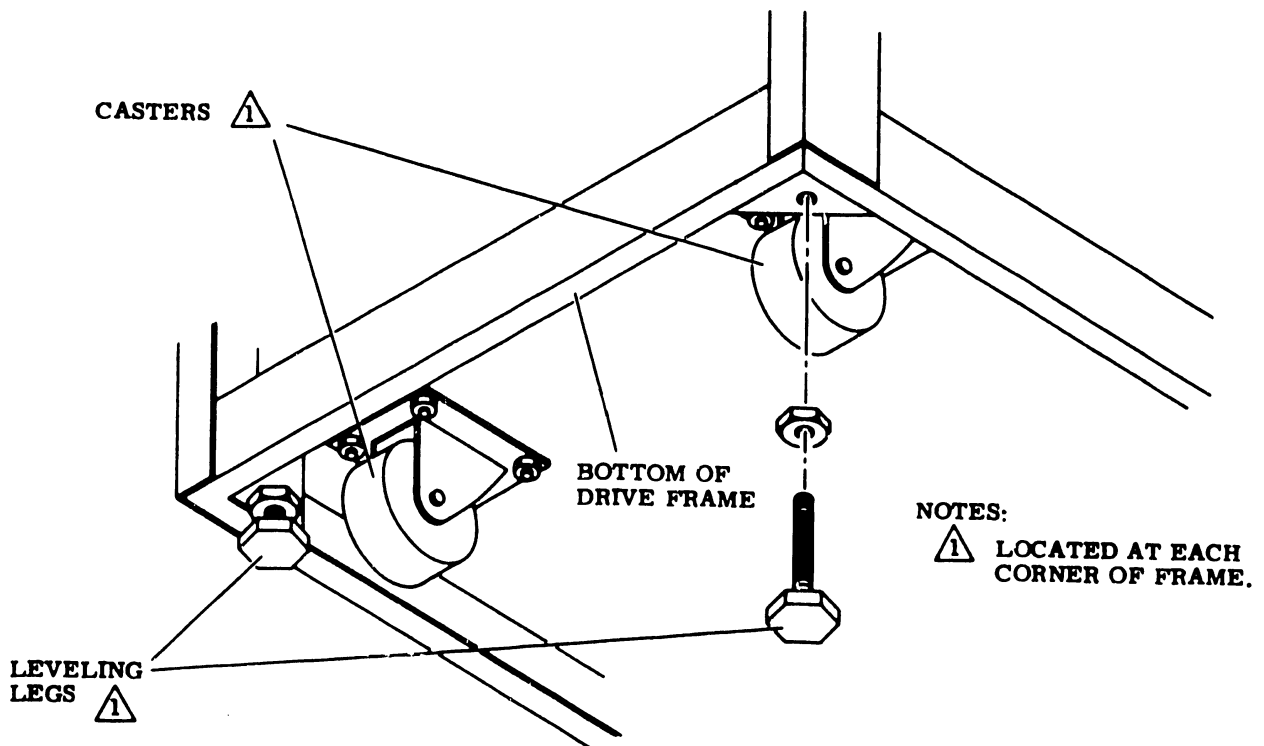

FIGURE 4-35 LEVELING PAD ADJUSTMENT
- B. Turn the leveling pads down until they support the weight of the disk drive (Figure 4-35).